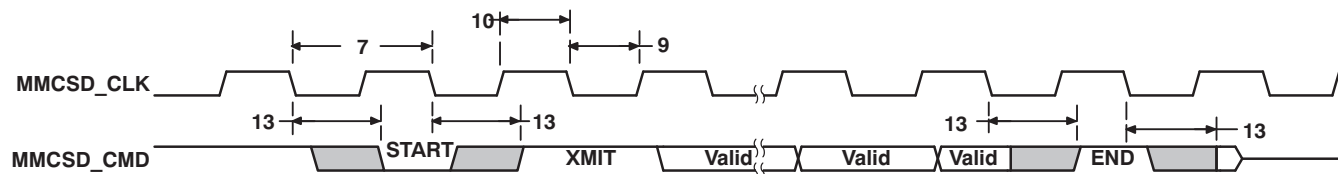
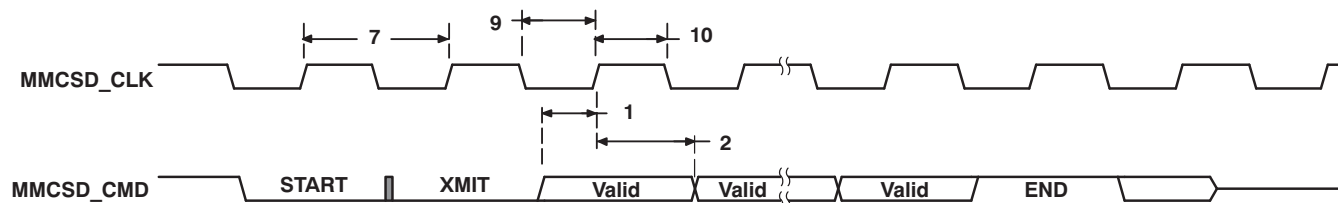
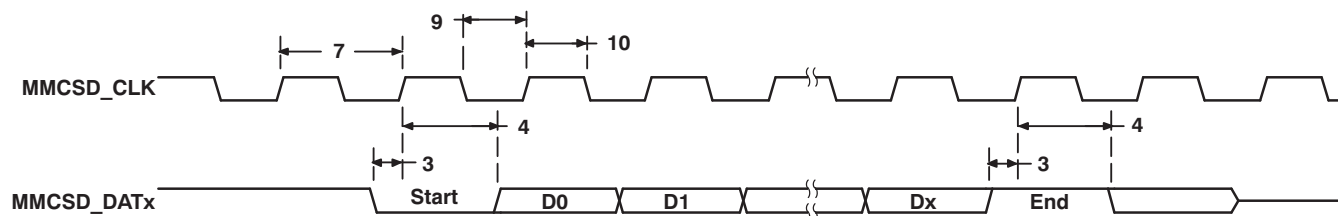

Figure 5-26. MMC/SD Host Command Timing
Figure 5-27. MMC/SD Card Response Timing
Figure 5-29. MMC/SD Host Read and Card CRC Status Timing
(see Figure 5-27 and Figure 5-29)
**Table 5-41. Switching Characteristics for MMC/SD** (see Figure 5-26 through Figure 5-29)